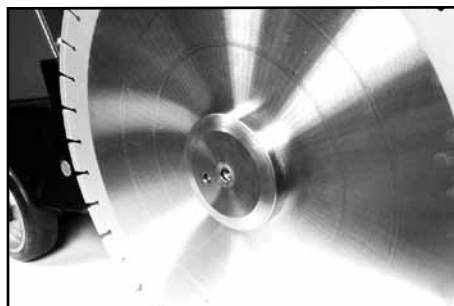

**Fig. 8 Pull Out Outer Flange**
3. Pull out outer flange (Figure 8).